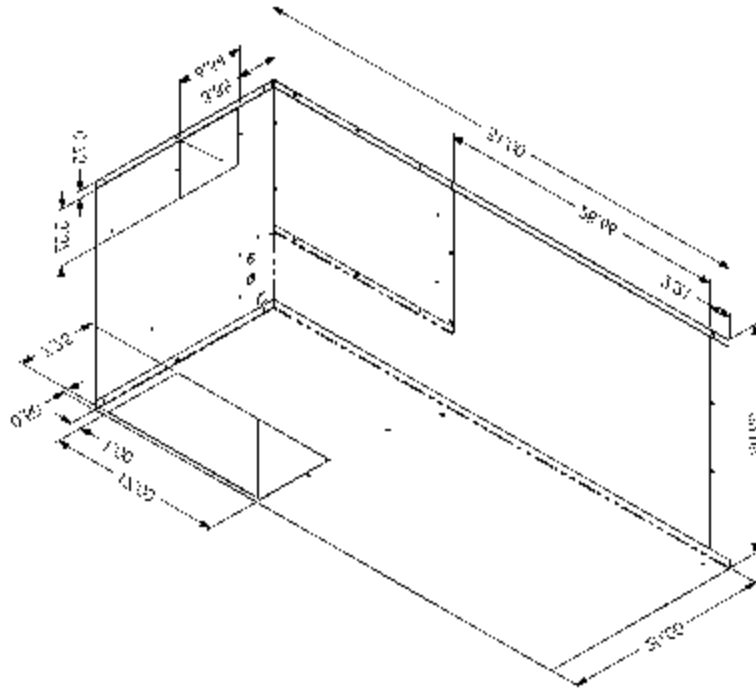

FIGURE 1
The outdoor air flow is drawn in through the side of the air conditioner (across the outdoor coil), and discharged out through the bottom of the appliance (through the discharge opening). Figures 1 and 2 show the location of both the outdoor coil and discharge air opening.
- 6) Do not install any other heat generating appliance in the same cavity as the heat pump. Additional heat in this cavity will decrease system performance in the cooling mode. Overall package dimensions are shown in Figure 1. RV Products requires that a minimum of 4 additional inches be allowed at the wiring box end of the unit to allow for the installation of both the low and high voltage wiring.
The ducting configuration is the end outlet-top return configuration. Reference Figure 1. This system ducts the supply air out the end while the return air is drawn in through the top. With this configuration, one cut out will be required to match the end opening and another to match the top opening.
- B) Each circuit high voltage wiring must be routed through a separate opening in the outer cabinet of the wiring box. These openings are referred to as the "power wire entries". See Figure 1. RV Products provides these two openings, each opening is a 7/8" diameter opening.